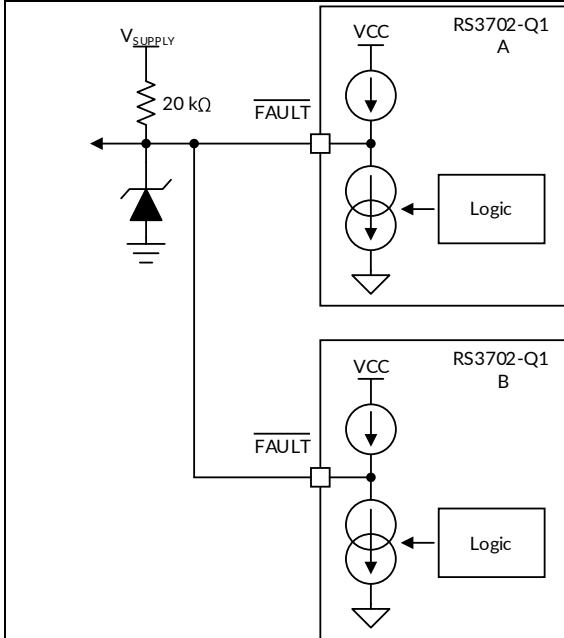

Figure 33. FAULT Bus for One-Fails-All-Fail Application
Based on this feature, the RS3702-Q1 device is able to construct a FAULT bus by tying $\overline{\text{FAULT}}$ pins from multiple RS3702-Q1 devices to achieve one-fails-all-fail function as Figure 33 showing. The lower side RS3702-Q1 (B)